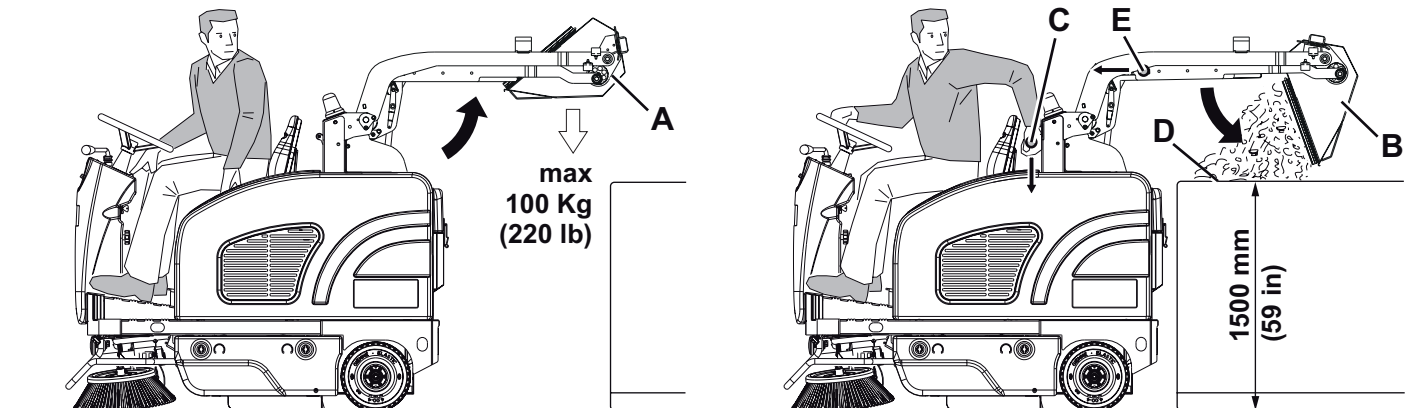

Figure 1
2. Press the enabling switch (66) while pressing the hopper lifting switch (81) to lift the hopper (A, Fig. 1) up to the desired position.
4. Dump the hopper (B) with the lever (C) to discharge all dust and debris collected (D).